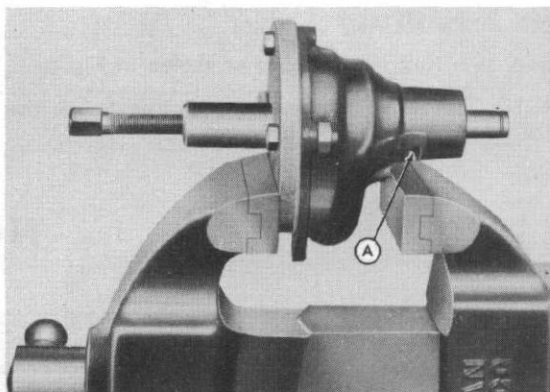

Fig. 4
- Step 4—Remove the lock ring (A-Figure 4) from the shaft at the front of the pump body. Press the shaft out of the pump body as shown in Figure 4 and remove the impeller.